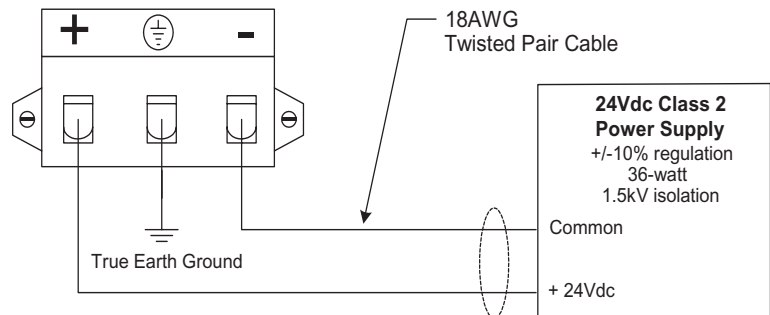

Figure 3: Control Power Connections
1. Connect the positive (+) terminal on the STR100 to the 24 Vdc positive on the power supply (see Figure 3).